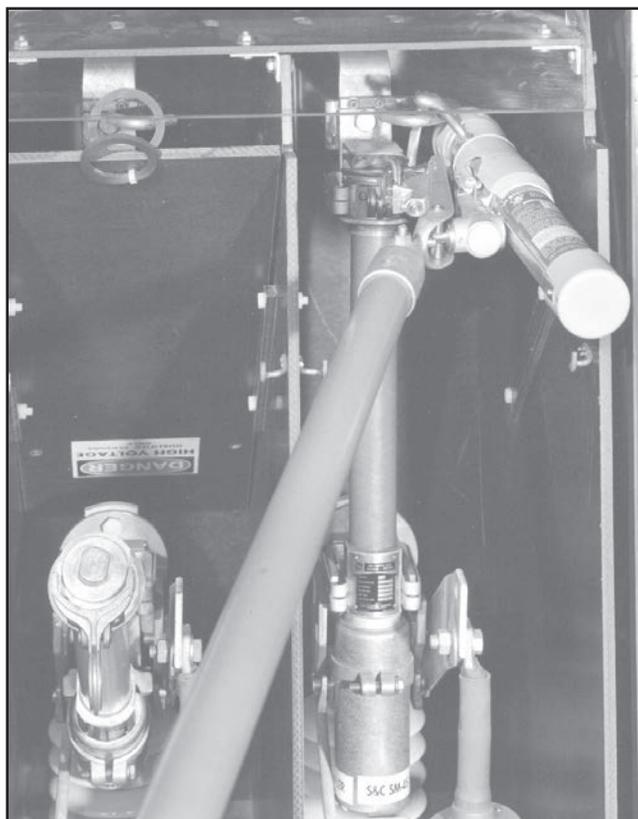

Figure 9. The Loadbuster tool connected to a power fuse.
- STEP 2.** Swing the Loadbuster tool toward the fuse unit and pass the Loadbuster tool pull-ring hook through the pull-ring of the fuse unit or holder. The pull-ring latch will deflect and, upon complete entry of the pull-ring hook, will spring back, locking the Loadbuster tool to the pull-ring. The Loadbuster tool is now connected across the upper contact of the power fuse. See Figure 9 on page 15.